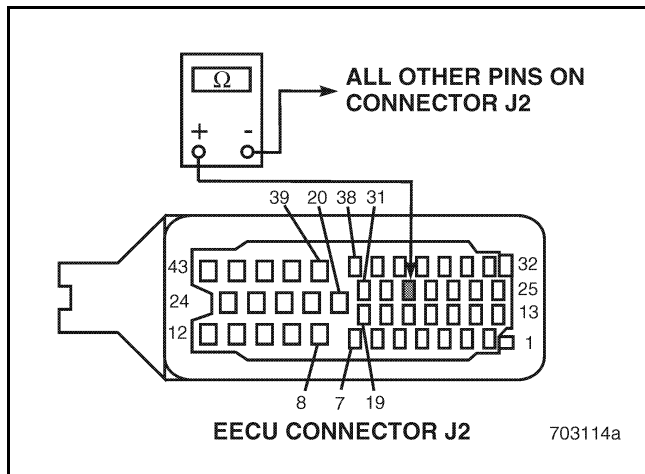

Figure 302
4. Check for continuity between EECU harness connector J2 pin 29 and all other pins on EECU connector J2 (see Figure 302).